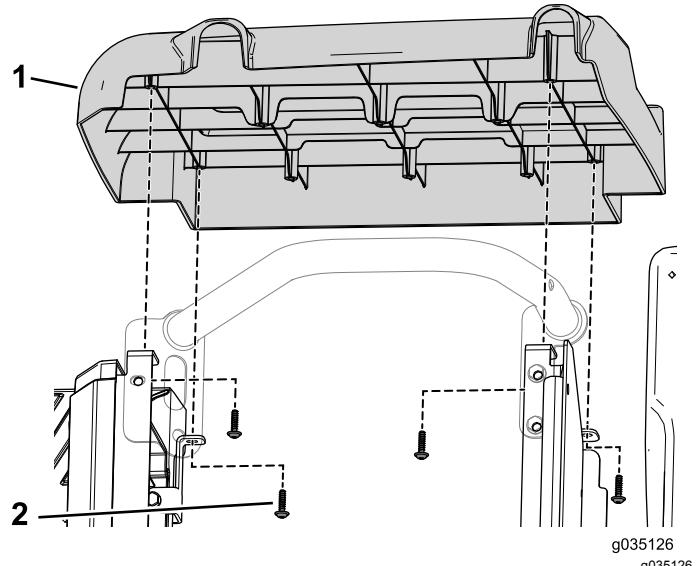

Figure 9
1. Remove the 4 self-tapping screws securing the right side panel to the machine (Figure 9).
3. Secure the right side panel using the previously removed 4 self-tapping screws (Figure 9).